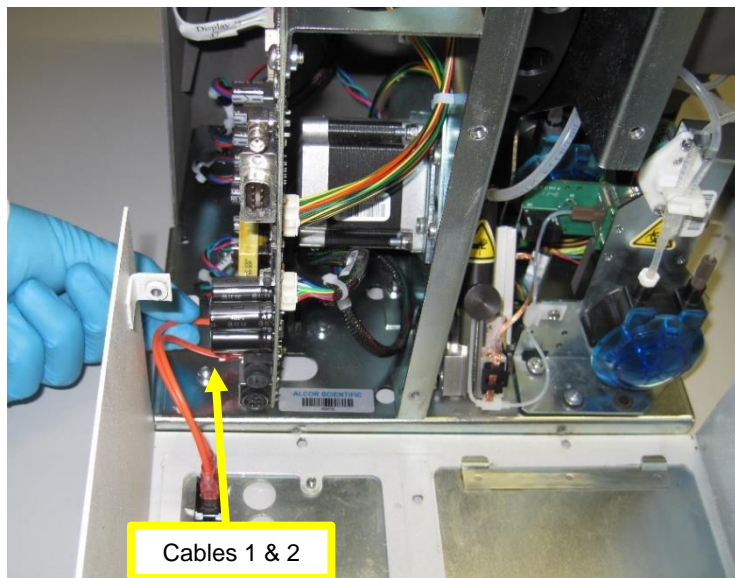

Figure 24
25. Two additional wires must be disconnected before the analyzer can be separated. These wires lead from the power switch to the main electronics board. Disconnect these wires from the main electronics board. Figure 24